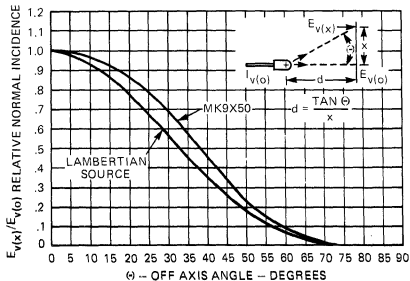

Fig. 13. Normalized Incidence on Diffuser
The edge of legend to center of legend illuminance ratio describes the illuminance uniformity. An illuminance uniformity of 0.5:1, or -3dB has proven acceptable due to the human eye's logarithmic response. Figure 13 presents a plot of the included angle ( $\theta$ ) versus  $E_v(x)/E_v(0)$  for the MK9X50 series lamps. This plot indicates that the edge of legend to center of legend ratio of 0.5 occurs when the included angle between the lamp and the edge of the legend ( $h/2$ ) is 38.5 degrees.
1. From Figure 13, a  $E_V(x)/E_V(0)$  of .5,  $\theta = 38.5$
Using Figure 13, the lamp to legend distance,  $d_0$ , is determined to be  $0.32\text{ inch}$ . The illuminance is calculated from Equation (8) to be  $18.9\text{ fc}$ .